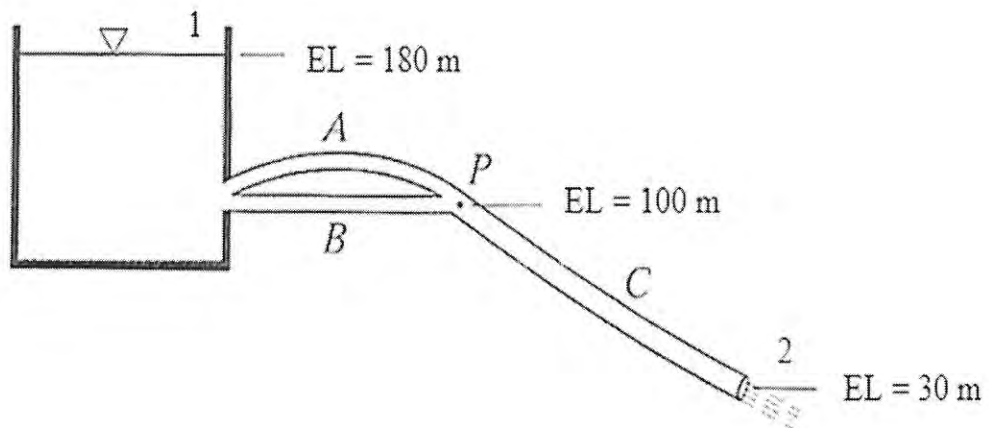

FIGURE Q2 (d)
- (b) Explain with **THREE (3)** examples of prototypes and their corresponding models flow that have geometric similarity, but not kinematic similarity, even though the Reynolds numbers match.
- (ii) Energy line (EL) (1 mark)
- (d) Three pipes A , B and C are interconnected as shown in **Figure Q2 (d)** and the pipe characteristics are tabulated in **Table Q2 (d)**. Calculate flowrate at in each pipe, neglect minor losses. (9 marks)